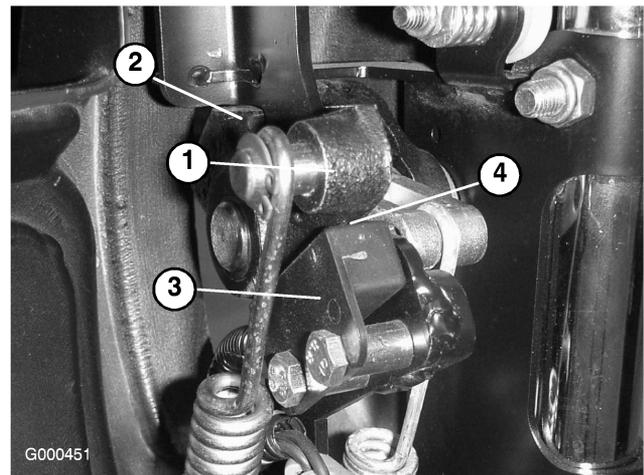

Figure 26
2. Engage traction lever until it contacts neutral stop (Figure 26).
3. Loosen interlock switch mounting fasteners (Figure 26).
4. Place a .032" thick shim between the traction lever and the interlock switch (Figure 26).